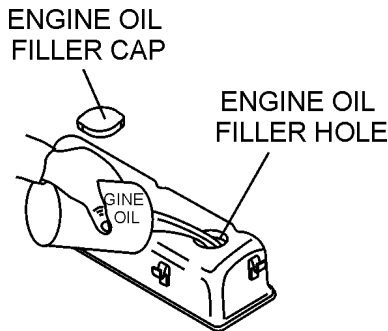

Figure 9. Engine Oil Filler Hole
4. If the engine oil level is too low, remove the engine oil filler cap Figure 9, and fill to the correct operating level.